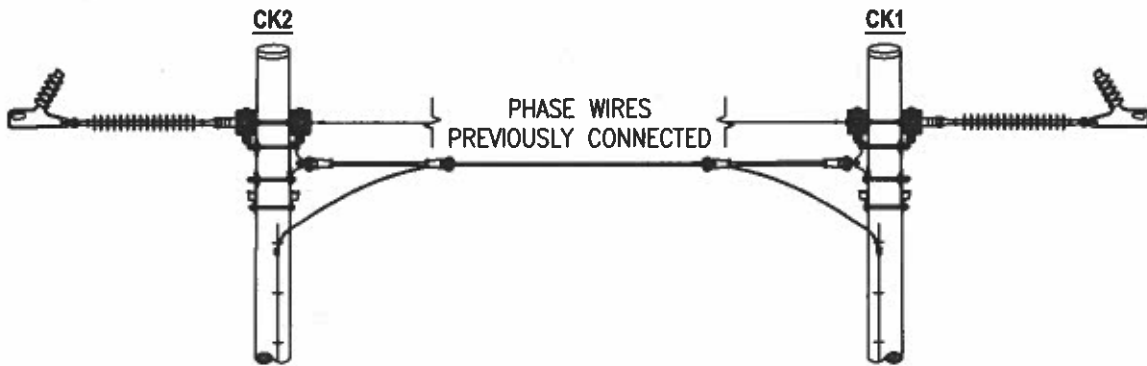

FIG.2
2. IN THE EVENT THAT STANDARD GUY ASSEMBLIES CAN NOT BE INSTALLED DUE TO TERRAIN OR ROW CONSTRAINTS, AERIAL GUYS WITH INSULATED RODS SHALL BE INSTALLED AS CLOSE TO ELEVATION OF REMOVED PHASE WIRES AS PRACTICABLE (FIG 2.).